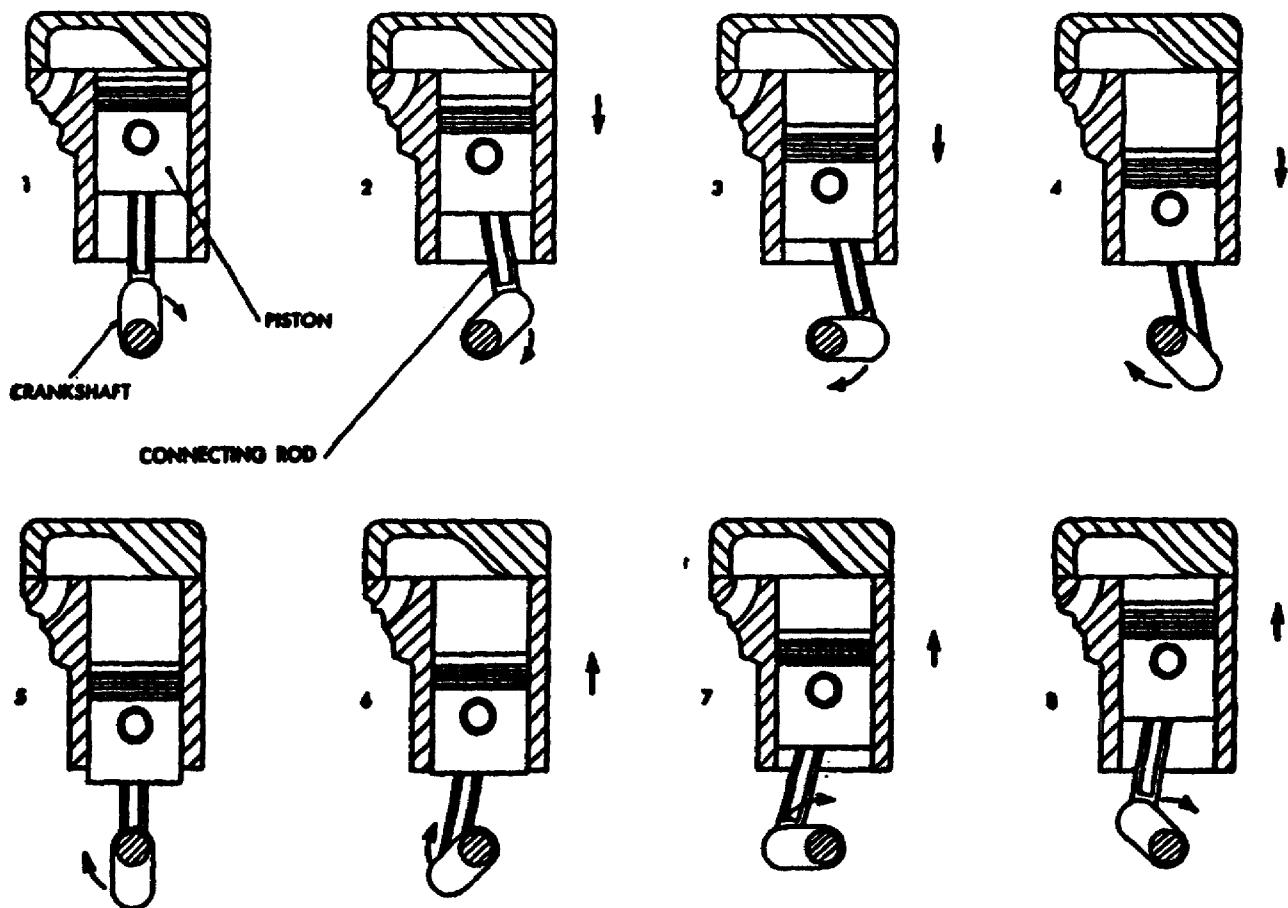

Figure 1-4. Relationship of Piston, Connecting Rod, and Crank on Crankshaft as Crankshaft Turns One Revolution.
(3) Stroke. The lower end of the connecting rod also moves up and down but, because it is attached to the crankpin on the crankshaft (Figure 1-4), it also moves in a circle. Each movement of the piston from the top to the bottom or from bottom to top is called a stroke. The piston takes two strokes as the crankshaft makes one complete revolution, an upstroke and a downstroke. When the piston is at the top of a stroke, it is said to be at top dead center (TDC). When the piston is at the bottom of the stroke, it is said to be bottom dead center (BDC). These positions are called rock positions.